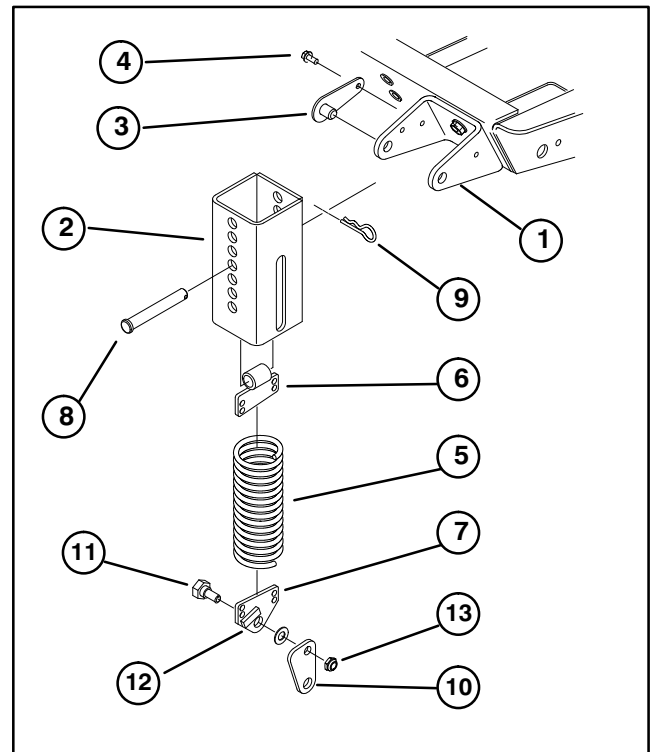

Figure 10
4. Thread the top extension spring coil into the top spring end holes and the bottom extension spring coil into the bottom spring end holes (Fig. 10).
5. Mount knee link to lower spring end with wide part of knee link pointing forward and spring end stop pointing forward. Secure knee link to outer side of spring end with a shoulder bolt, washer and locknut (Fig. 10, 11).
7. Align slotted holes in the spring cover (slot toward the bottom) with the mounting bracket holes. Insert lock pin assemblies into the bracket holes and secure each to the bracket with self-tapping screws (Fig. 10). Torque the screws to 20 ft–lb.
8. From the bottom, insert the spring and top spring end into the spring cover. Select a hole that matches the cutter deck height-of-cut setting; i.e., top cover hole matches the highest height setting, bottom cover hole the lowest, etc. Align the top spring end hole with the selected spring cover holes and insert the clevis pin to secure the spring inside the cover (Fig. 10). Secure clevis pin with a hair pin cotter.